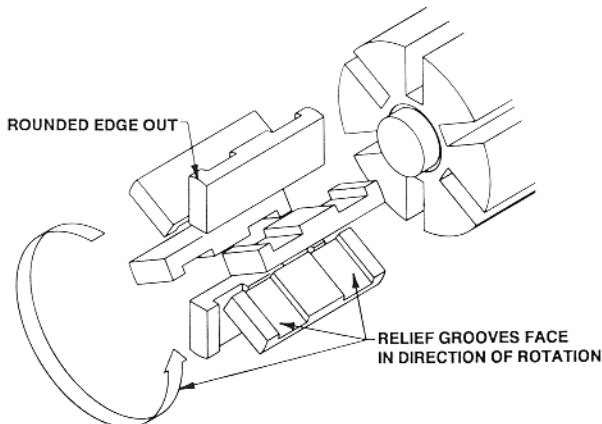

Figure 2 - Vane Replacement
3. Remove and replace the vane, making sure to install the vane with the relief grooves facing in the direction of rotation, and with the rounded edge outward to contact the liner (see Figure 2).
- a. Insert vanes (14) into the bottom three rotor slots with the relief grooves facing the direction of rotor rotation, and with the rounded edges facing outward. (Refer back to Figure 2.)